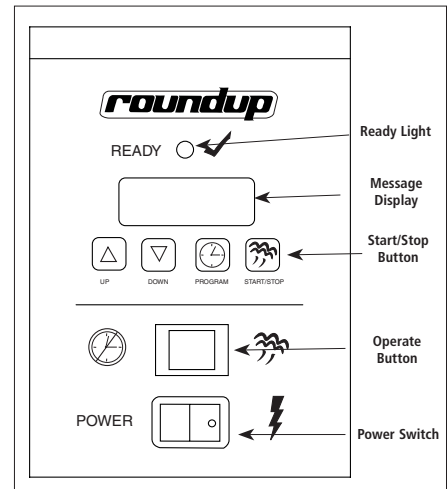

Figure 3. Control Panel (Timer Models)
The control is used to set the desired steam time (up to 99 minutes, 59 seconds). When the **START/STOP** button (Figure 3) is pressed, the Control Board applies power to the water pump/solenoid at regular intervals for the duration of the displayed cycle time. The display counts down to zero, sounds an audible signal when the cycle is complete, and then reverts back to the original programmed cycle time. The unit is ready for the next cycle when the green ready light is on.
1. Turn the power on (Figure 3).